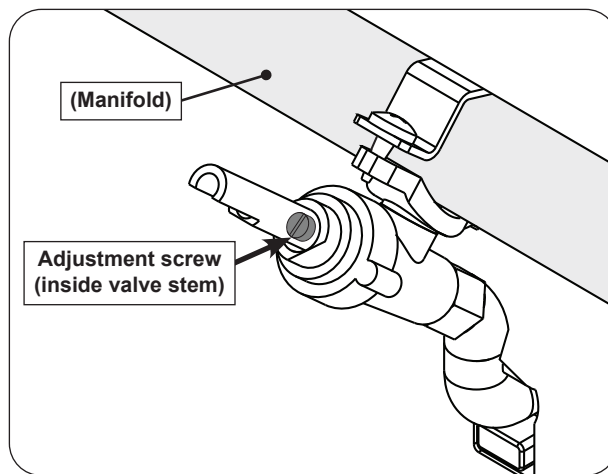

Fig. 38-1 Valve adjustment screw location
3. Locate the FLATHEAD adjustment screw found inside the valve stem (see Fig. 38-1).